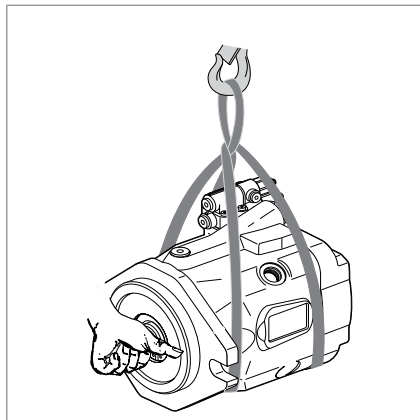

Fig. 5: Transporting with lifting strap
- ▶ Place the lifting strap around the axial piston unit in such a way that it does not pass over assembled parts (e.g. valves, piping) and that the axial piston unit is not suspended from assembled parts (see Fig. 5).